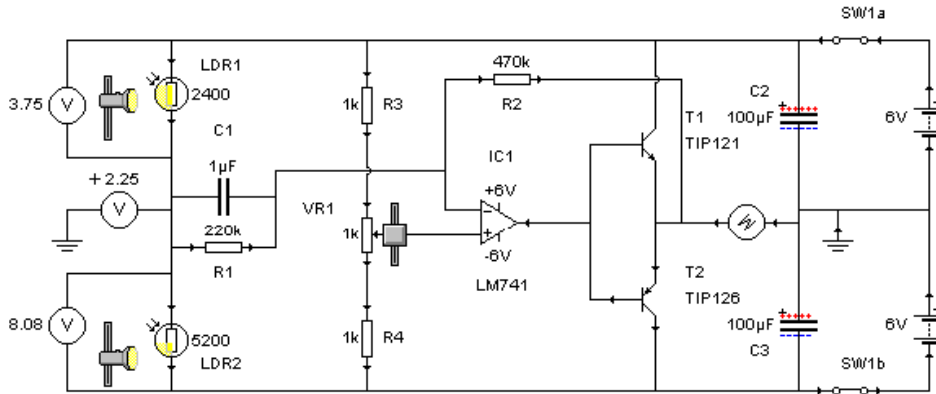

FIGURE 3: MORE LIGHT TO LDR1
8.2.2 MORE LIGHT TO LDR1 - Figure 3